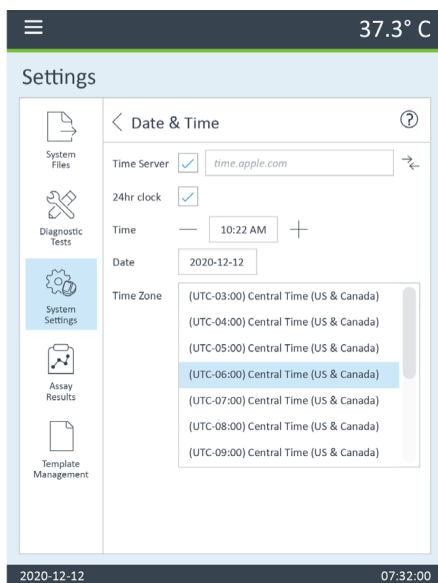

Figure 36. Select the local time zone for your XFp Analyzer.
- 2 Select the **Date & Time** tab. (**Figure 36** on page 60)